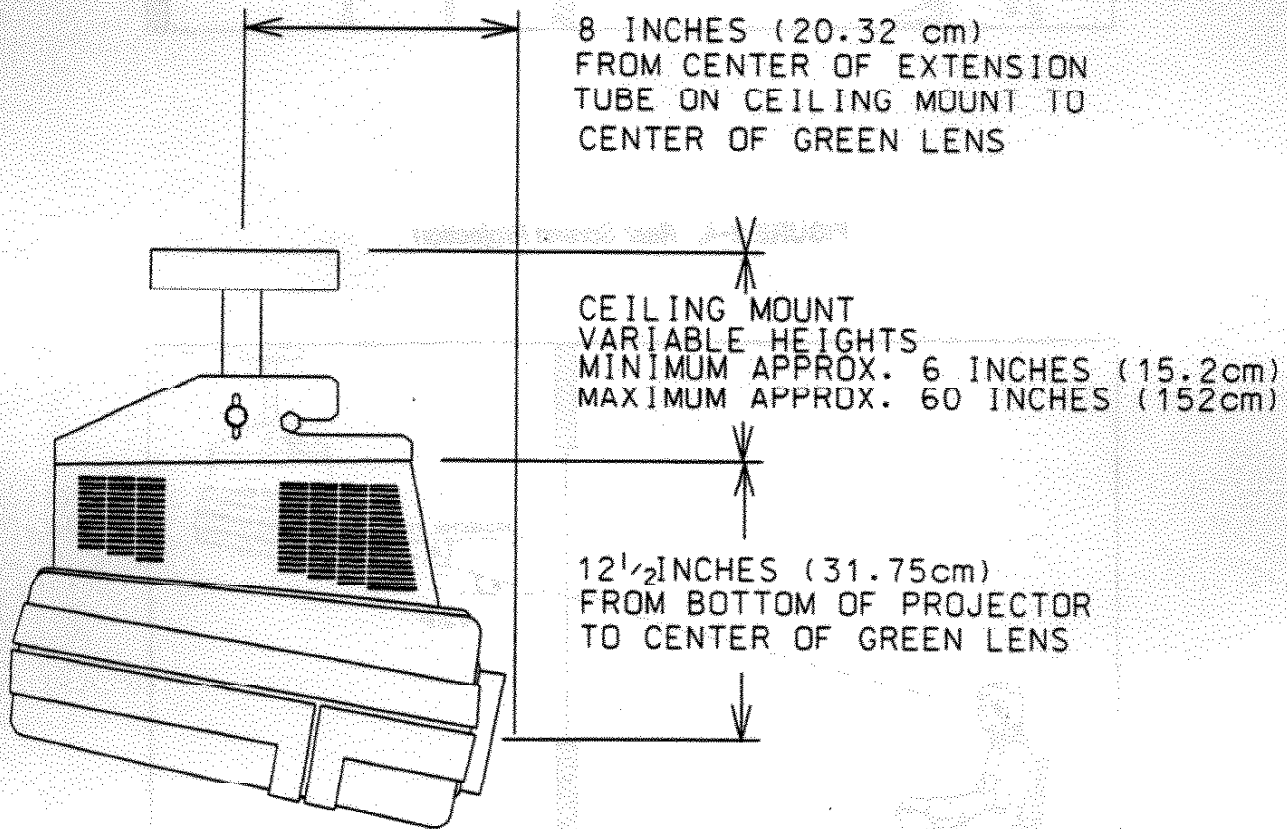

FIGURE 2-5. The Ceiling Mount
- c) Adjust the length of the ceiling mount to reach from the ceiling to the bottom of the projector. Refer to FIGURE 2-5.